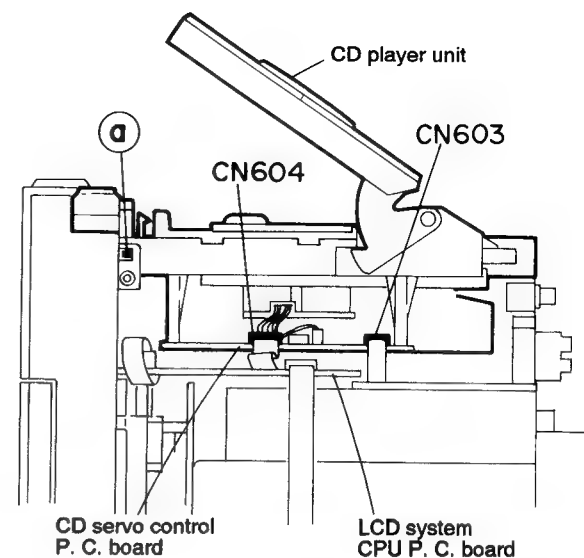

Fig. 5-7
(See Figs. 5-7 and 5-8)
3. From the connector CN603 on the CD servo control P. C. board, disconnect the card wire outgoing from the connector CN304 on the power amplifier P. C. board (See Fig. 5-7).
4. Disengage the left and right engagements **a** and **b** fixing the CD player unit by using a minus screw driver, etc. (See Figs. 5-7 and 5-8).